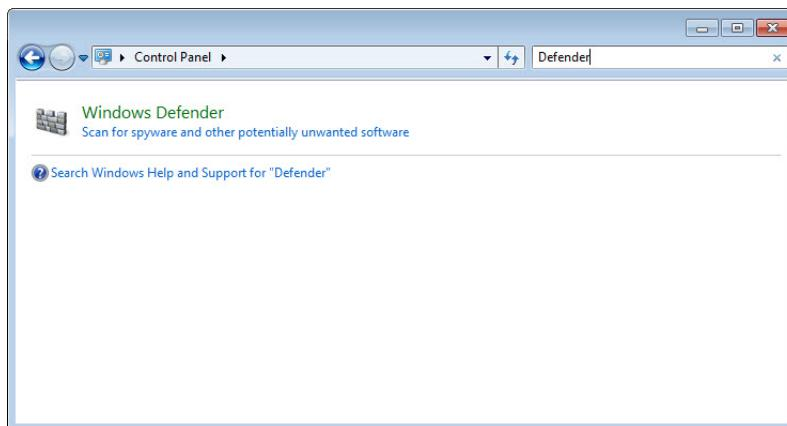

Figure 2-8. Selecting Windows® Defender
- 1 In the *Control Panel* select **Windows Defender** (Figure 2-8), for example by searching.